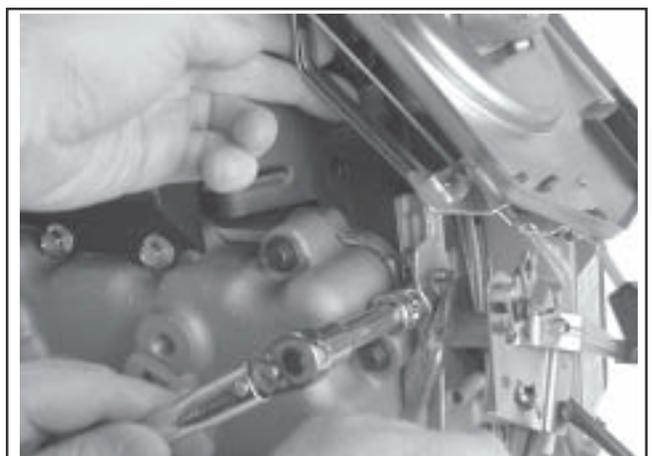

Figure 11-58. Adjusting Governor.
- c. Tighten the hex nut on governor lever securely. See Figure 11-58.